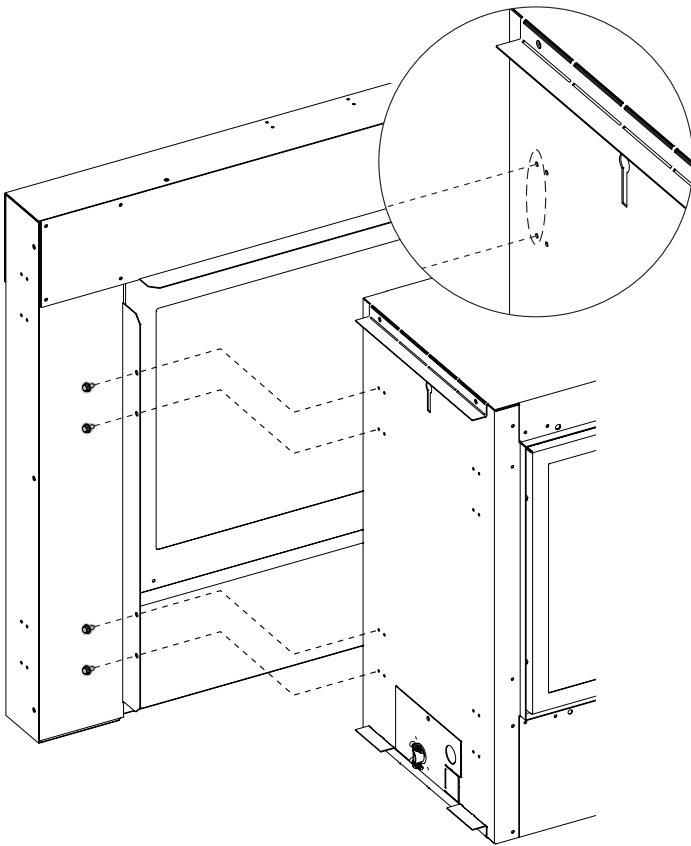

Figure 10
12. Secure the outer glass and frame to the sides of the fireplace using four provided #10 x ½ inch screws. **See Figure 10.**